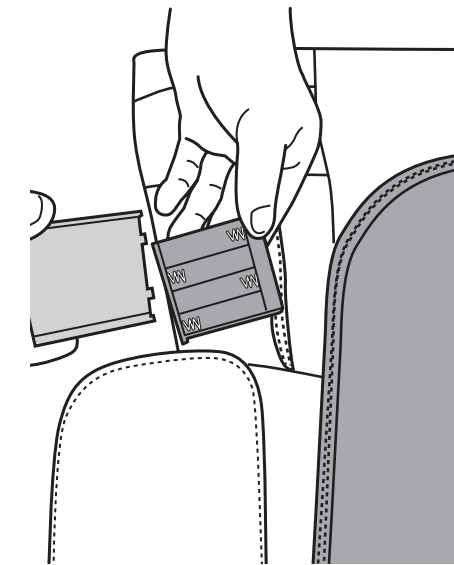

Fig.26
4. Use your fingers to remove the battery compartment cover, then install four AA alkaline batteries (Fig.26).